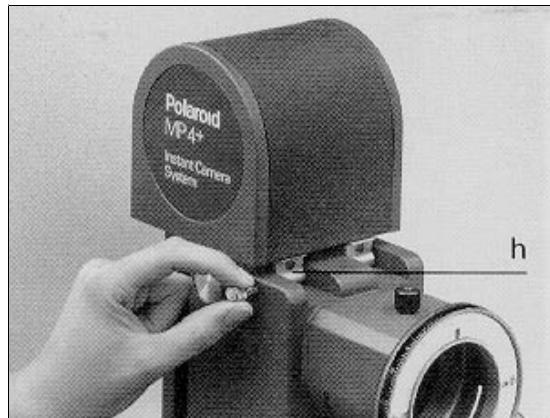

Figure 2-12. Inserting Pin through Spring Loop
- d. Reinsert the pin, making sure that it goes through the loop (h, figure 2-12) in the spring end. Tighten the pin.